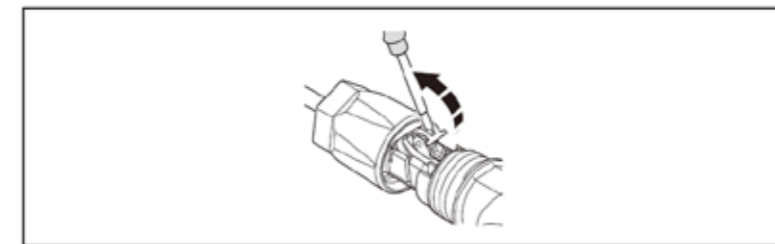

Figure 5-11
- 3) Open spring using a screwdriver(Figure 5-11) .